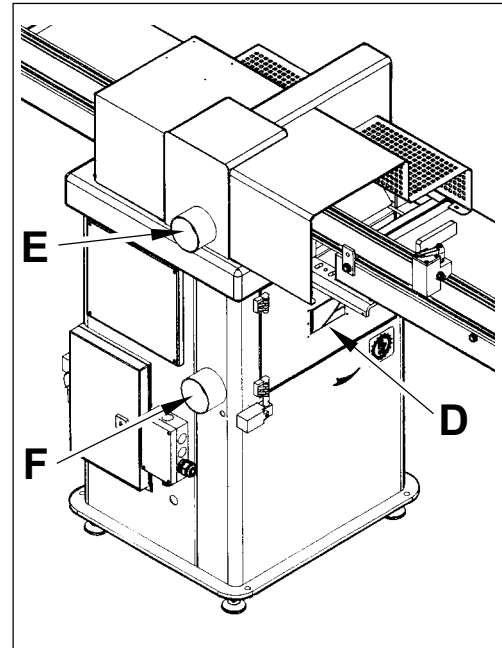

Fig. 3-6 Extraction
- Proceed to check the direction of rotation of the motor, observing the arrow on the base under the blade access door and observing the blade through the window **D** Fig. 3-6.
3.6 EXTRACTION CONNECTION (Fig. 3-6)